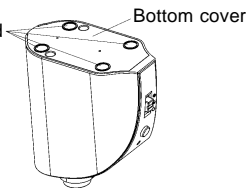

Figure 3
**01.** Before using the virtual wall, install the batteries as shown in figure 3, open the bottom cover of the virtual wall, install 2 pcs A batteries (pay attention to the correct polarity). After the installation, close the bottom cover and tighten the screws.
1. You need to use a screwdriver to open the bottom cover of the virtual wall (see Figure 3)